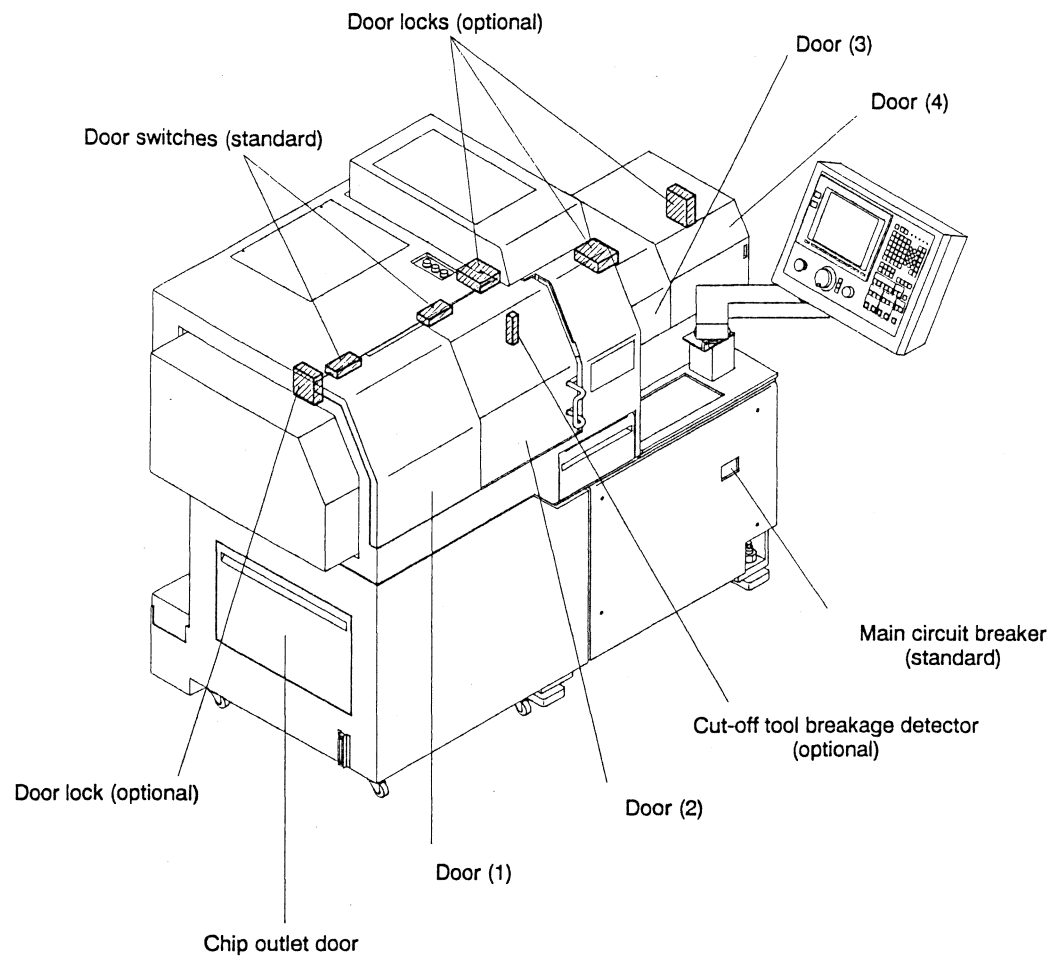

Figure 2.3-1. Location of Safety Devices (Front side)
Figures 2.3-1 and 2.3-2 show the locations of the safety devices on the machine.
Door locks prevent any person from opening the front left (cutting side) doors (1) and (2) and front right (main spindle side) doors (3) and (4) during machine operation. You will only be able to open these doors when the machine is stopped. (See Figure 2.3-1.)
These door switches disable machine operation while the front left (cutting side) doors (1) and (2) and the front right (main spindle side) doors (3) and (4) are open. (See Figure 2.3-1 and 2.3-2.) Unless all the doors are closed, you cannot operate the machine